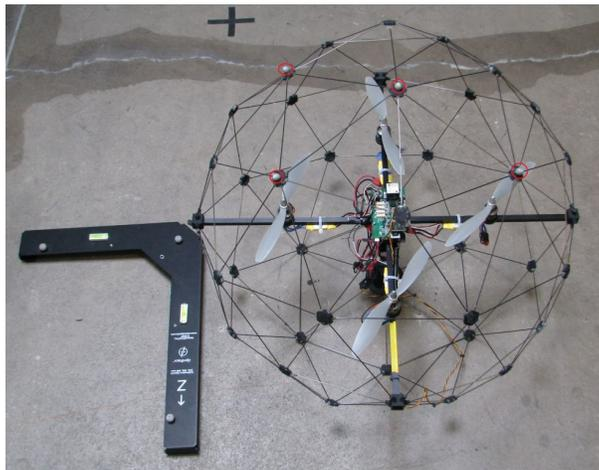

Figure 6.16: Tracking markers placed for the rigid body
1. Add tracking markers to the top of the QBall 2 protective cage in a fixed, unique pattern, as shown in Figure 6.16. At least 3 markers must be used and additional markers provide better redundancy and robustness to occlusion. This procedure assumes there is a marker on the top-most node of the cage, which allows us to more easily translate the pivot point (center) of the rigid body. Other configurations can be used as long as the pivot point is appropriately translated to the center of the QBall 2.